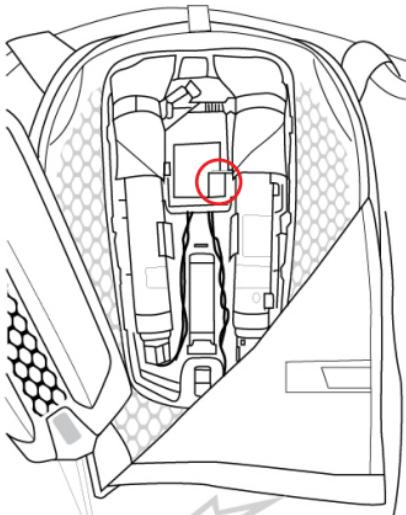

Figure 30: Shipping Mode switch location
When shipping the System, the User MUST put the System in SHIPPING MODE. In order to do so, the User has to access the System's Electronics by opening the Electronic Case (16) and using the Shipping Mode Switch (14), located as indicated in Figure 30. After setting the Shipping Mode to ON, by sliding the white button up, the User can ship the System. In order to return to the normal System functioning, the User has to set the Shipping Mode to OFF, by sliding the white button down towards the bottom of the back.